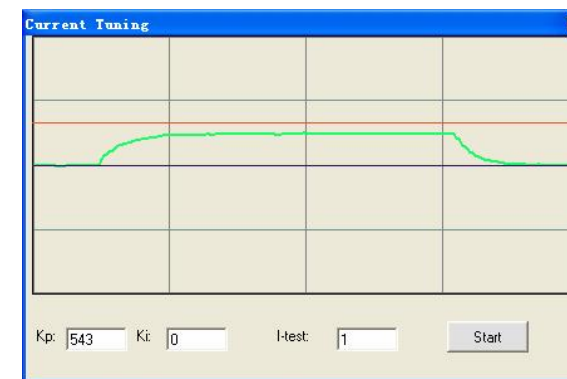

Figure 23: Kp=543, Ki=0 (poor performances)
**Kp: Proportional Gain.** Proportional Gain determines the response of the Drive to current setting command. Low Proportional Gain provides a stable system (doesn't oscillate), has low stiffness, and large current error, causing poor performances in tracking current setting command in each step like Figure 23. Too large Proportional Gain values will cause oscillations and unstable systems.